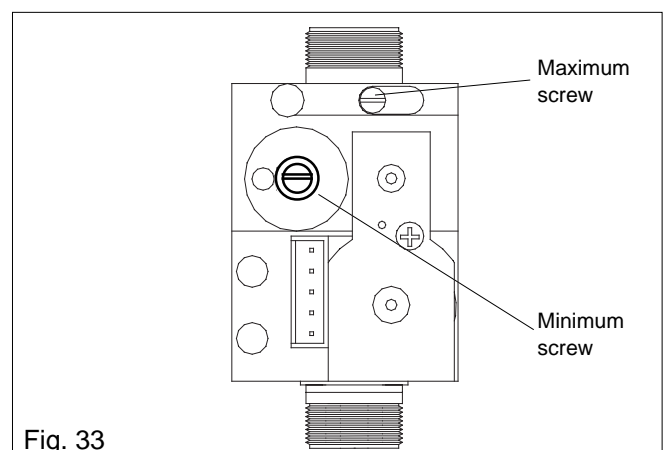

Fig. 33
- using a suitable screwdriver, very slowly turn the minimum adjustment screw (see fig. 33)—clockwise to increase, counter clockwise to decrease – until the correct value is displayed on the CO₂ analyser (allow time for the analyser to stabilise).
- using a suitable screwdriver, very slowly turn the maximum adjustment screw (see fig. 33)—clockwise to increase, counter clockwise to decrease – until the correct value is displayed on the CO₂ analyser (allow time for the analyser to stabilise).